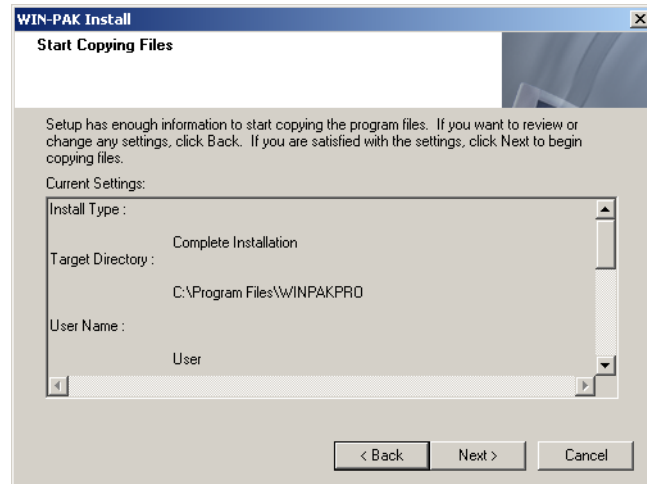

Figure 2-13 Start Copying Files
11. Click **Yes** to place icons on your desktop. Figure 2-13 summarizes the selected information.